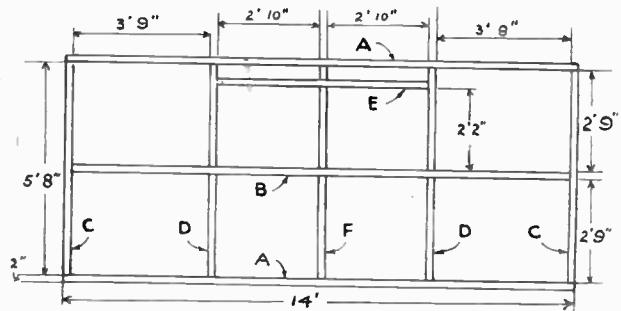

Fig. 7—Position of pieces forming side section
The two side sections are identical. The position of the pieces are shown in Fig. 7. Half joints are used where the scantlings cross inside the frame. These are simple to make and need no explanation. Measure each piece very carefully, and cut to length. The five pieces (D) two off, (B), (E) and (F), should be marked out for the half joints, using a marking gauge and square. Finally cut the two 14 ft. lengths to size and drill each end for the nails.